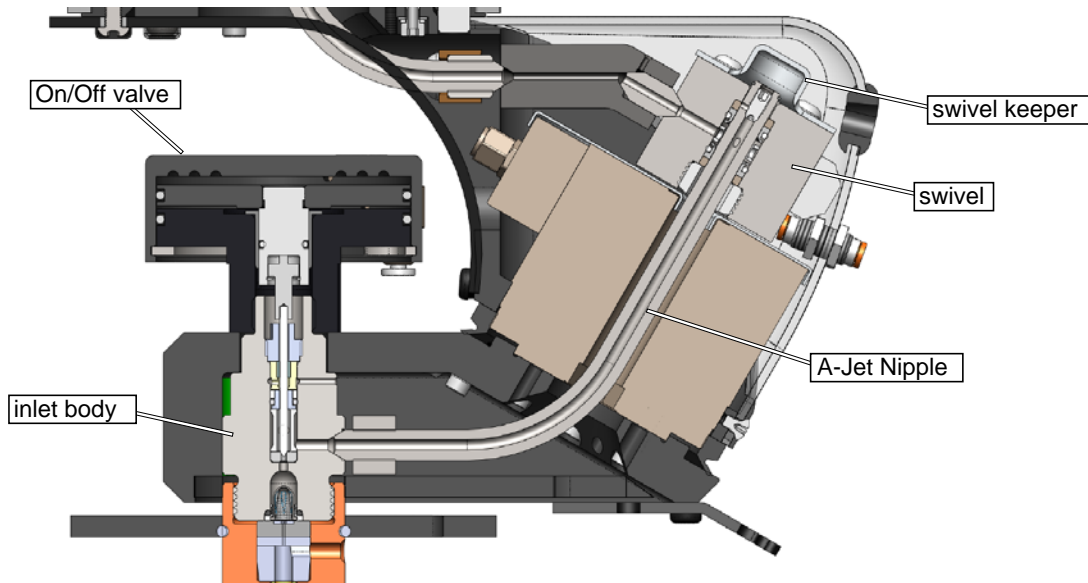

Figure 68
**WARNING!** *Never high-pressure test the A-Jet with the swivel keeper removed (Figure 68). If the nipple has a broken piece in the swivel assembly, that piece could come flying out with extreme force.*